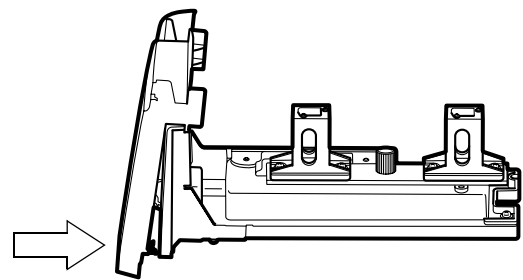

Fig. 4.17 Snapping the sample compartment front cover
- 4 Snap the sample compartment front cover into the sample compartment unit. Push the cover in the arrow direction in Fig. 4.17 until it snaps.